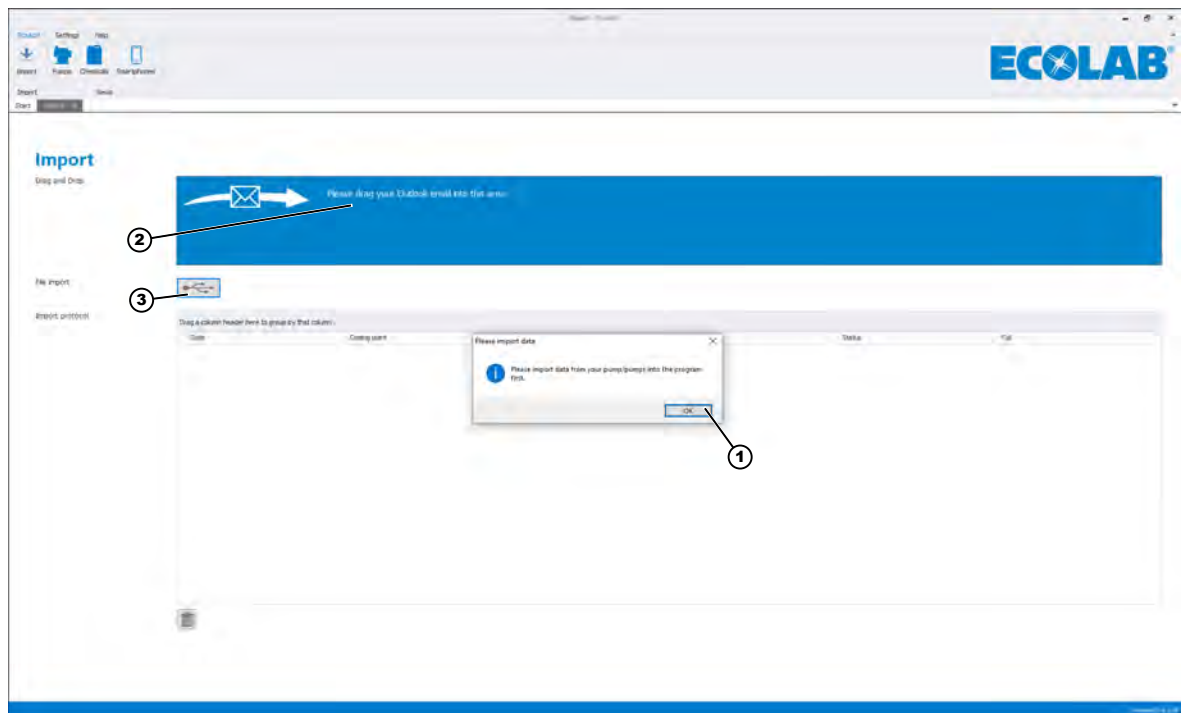

Fig. 3: Initial configuration
1. ➤ Choose [OK] (Fig. 3, item 1) to confirm the notification window.
Email data import: (Fig. 3, item 2)
USB data import: (Fig. 3, item 3)